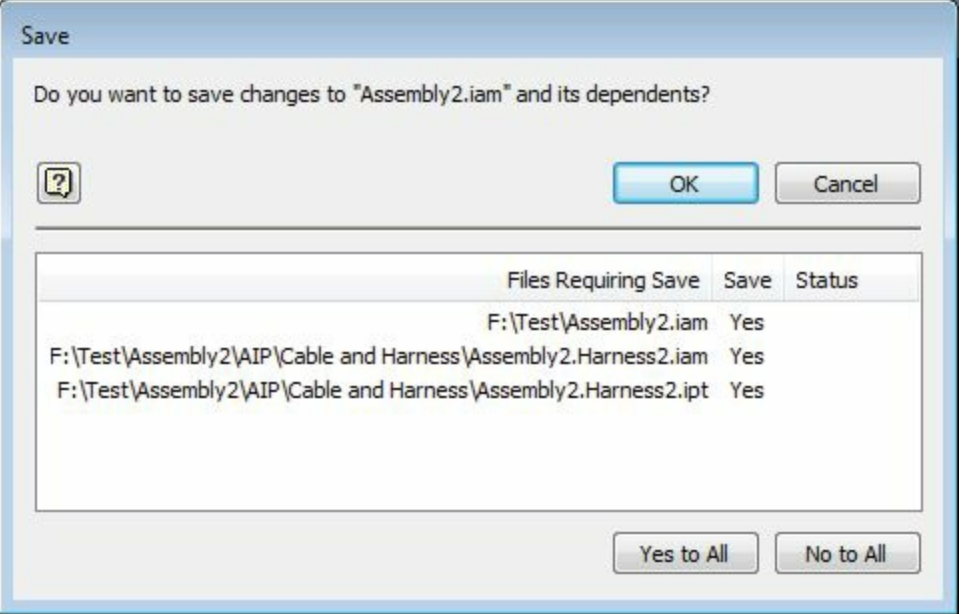

Figure-12. Save dialog box
- Select the desired link file and click on the Open button from the dialog box. If there are unsaved changes in the assembly file then you will be asked to save the unsaved changes; refer to Figure-12.